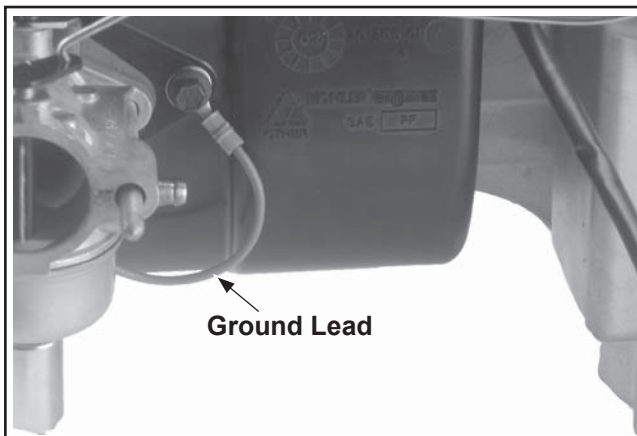
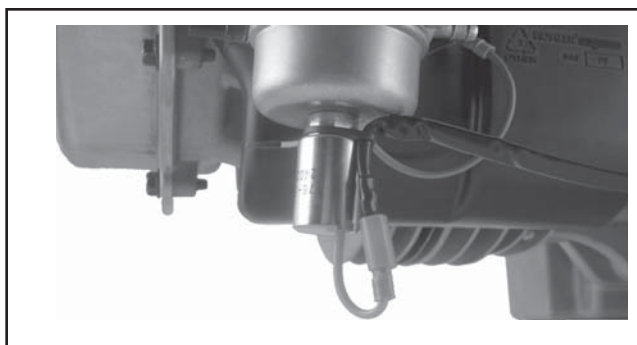

Figure 10-61. Securing Ground Lead.
Figure 10-62. Fuel Solenoid Lead Secured with Tie Strap.
7. If the carburetor has a fuel solenoid, fasten the ground lead to the crankcase boss, with the toothed washer between the eyelet terminal and the boss. See Figure 10-61. Torque the screw to **8.0 N·m (70 in. lb.)**. Connect the solenoid power lead to the wiring harness and secure with a tie strap. See Figure 10-62.